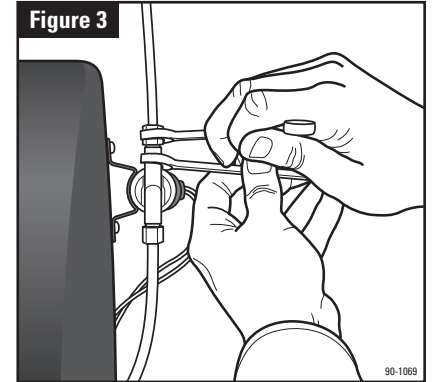

Figure 3
9. Run 1/4" copper tubing from saddle valve to solenoid valve. **DOUBLE-WRENCH TO PREVENT LEAKING.** See **Figure 3**.